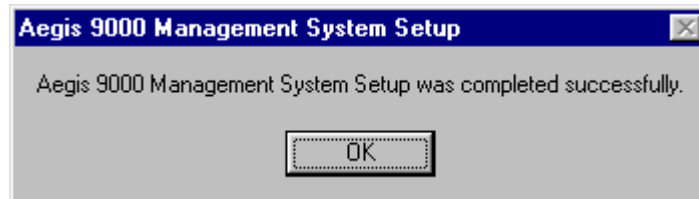

Figure 3.10
Step 9 If the installation is successful, You will see the “Dialog Box” as in figure 3.10.